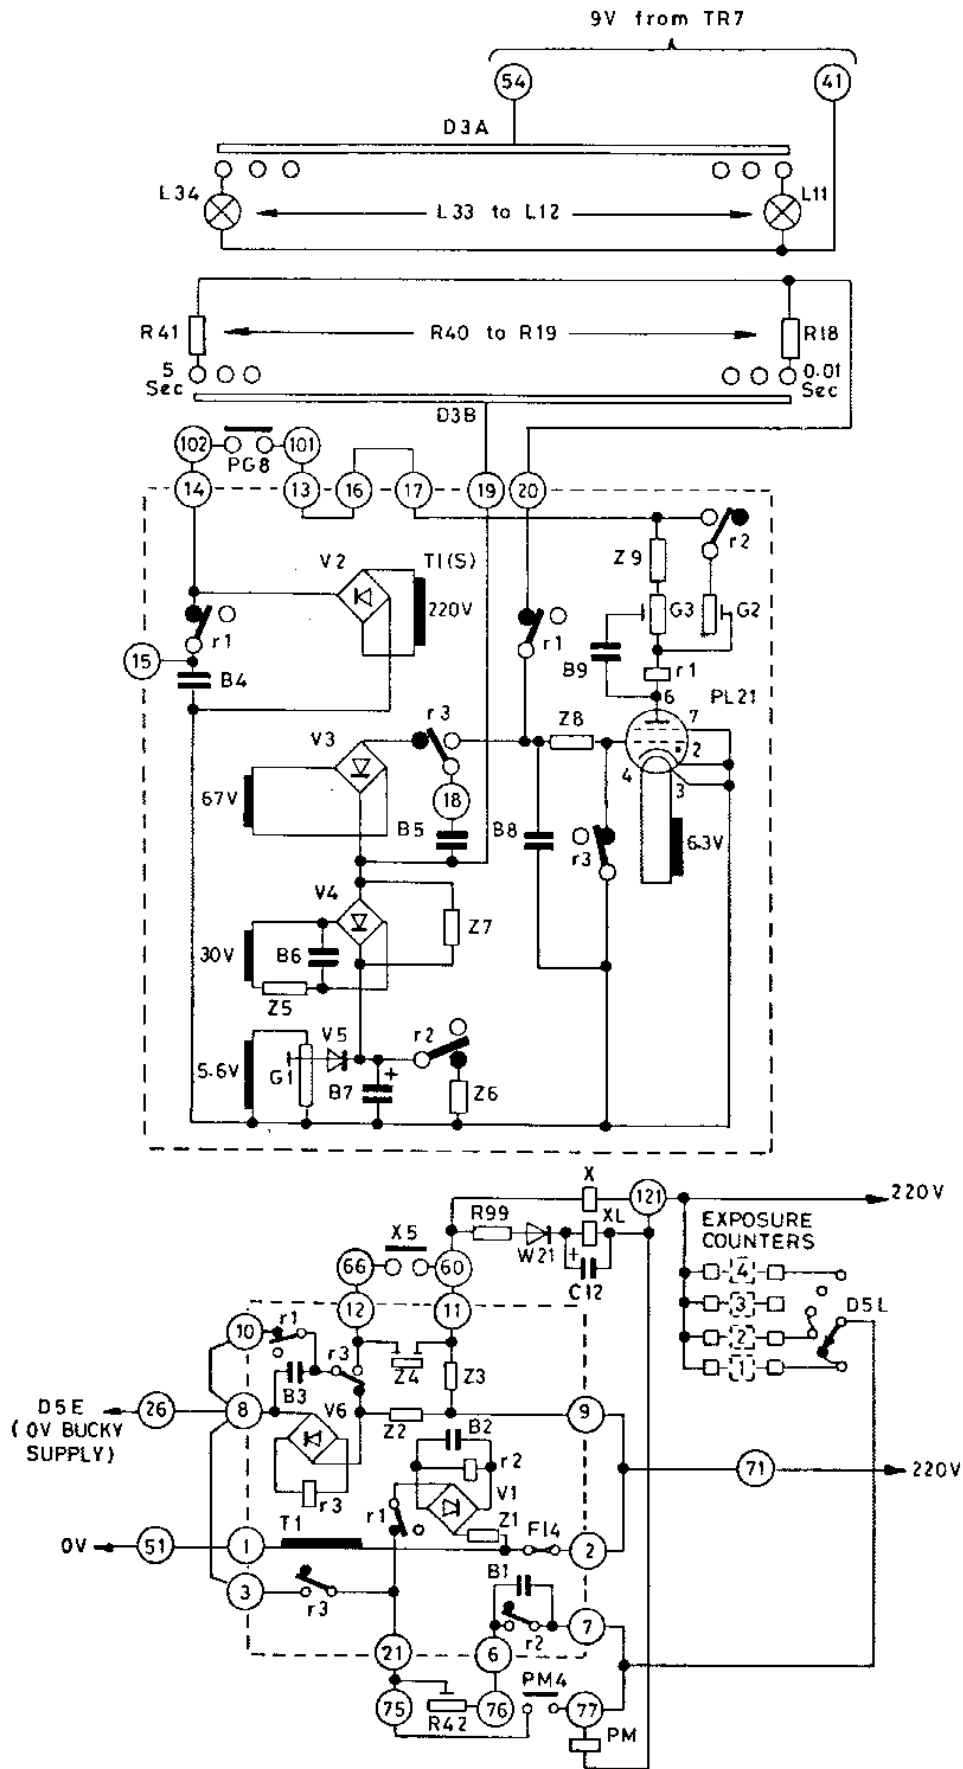

Fig 41 TIMER CIRCUIT
- F The connection between terminal 26 and the linked terminals 3, 8 and 10 on the timer chassis (see Grid ref 8F of Fig 34 and Fig 41) completes the expose start circuit to the timer.
- A RADIOGRAPHY PREPARE MODE OF CONTROL FIGS 41, 42, 43, 44